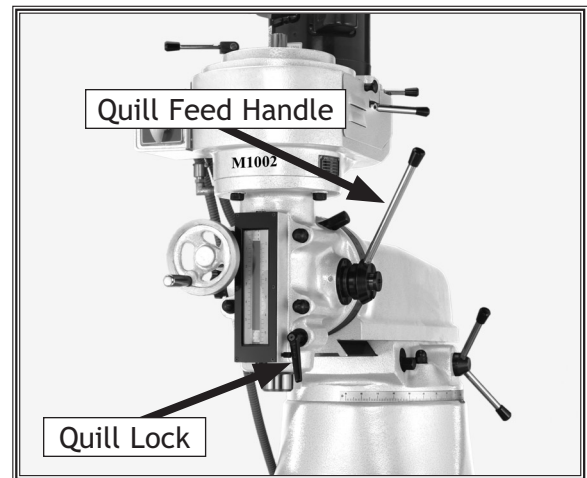

Figure 23. Quill controls.
The quill feed is controlled by the quill feed handle shown in **Figure 23**. The handle allows the mill to operate as a drill.
1. Pull the quill feed handle (see **Figure 23**) forward to feed the quill down towards the workpiece. The quill feed handle is spring loaded to assist in returning the handle to the upmost vertical position.
2. Lock the quill in place at any depth by tightening the quill feed handle lock shown in **Figure 23**.